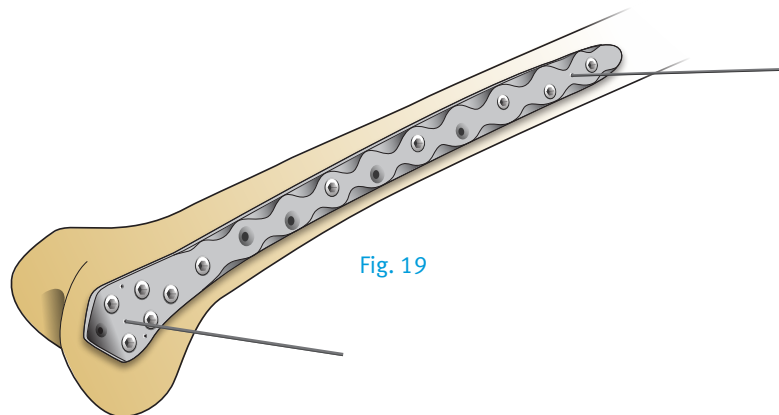

Fig. 19
Repeat this procedure as necessary to insert a **MINIMUM of three (3)** *MotionLoc* Screws and Locking Caps into the shaft of the bone (Fig. 19).